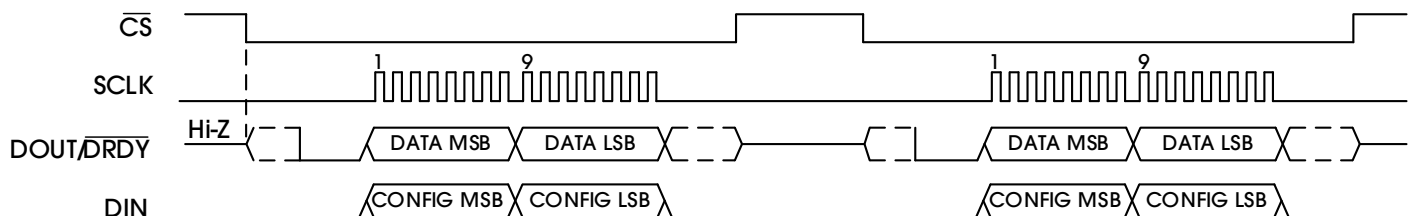

Figure 30. 16-Bit Data Transmission Cycle
If config register data are not required to be read back, the ADX112(Q) conversion data can also be clocked out in a short 16-bit data transmission cycle, as shown in Figure 30. Therefore, \overline{CS} must be taken high after the 16th SCLK cycle. Taking \overline{CS} high resets the SPI interface. The next time \overline{CS} is taken low, data transmission starts with the currently buffered conversion result on the first SCLK rising edge. If DOUT/DRDY is low when data retrieval starts, the conversion buffer is already updated with a new result. Otherwise, if DOUT/DRDY is high, the same result from the previous data transmission cycle is read.